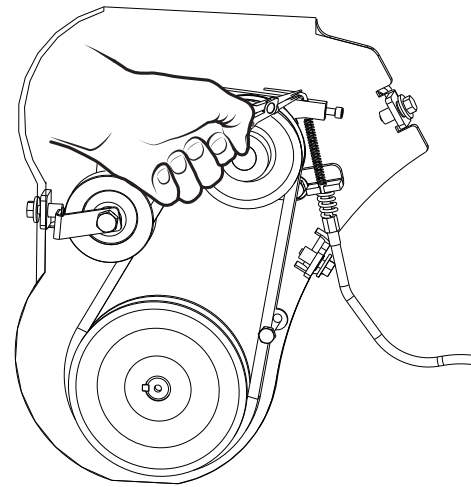

Figure 19. Clutch Cable Slack Removal
7. While lifting the clutch arm by the pulley, grab the clutch cable with pliers and pull all slack out from the cable while at the same time making sure good tension is on the belt (Figure 19). Once all slack is removed from cable and belt is snug, tighten cable retention screw.